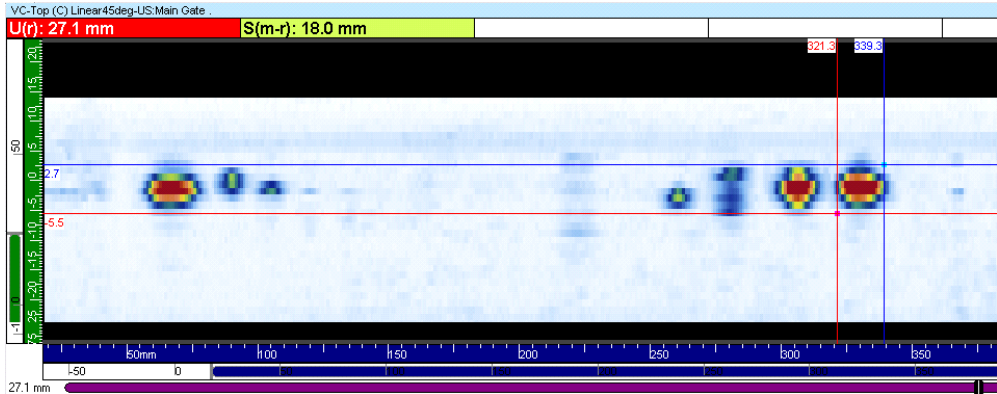

Figure 10-10 Setting up the view and the readings
2. In TomoView, open and setup the appropriate data file similar to the example shown in Figure 10-10 on page 455: